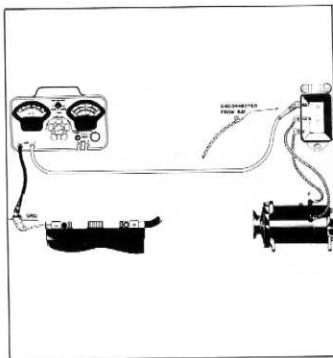

Fig. 22—Volt-Ammeter Connections for Checking Current Regulator
- Remove battery wire from battery terminal of the regulator and connect positive lead of tester ammeter to battery terminal of regulator (fig. 22).